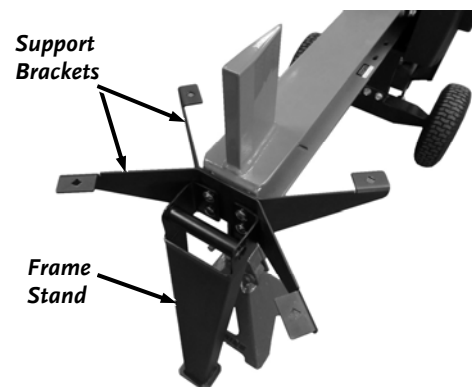

Figure 2
1. Support the Beam of the Log Splitter with a Jack Stand or equivalent (**Figure 2**).